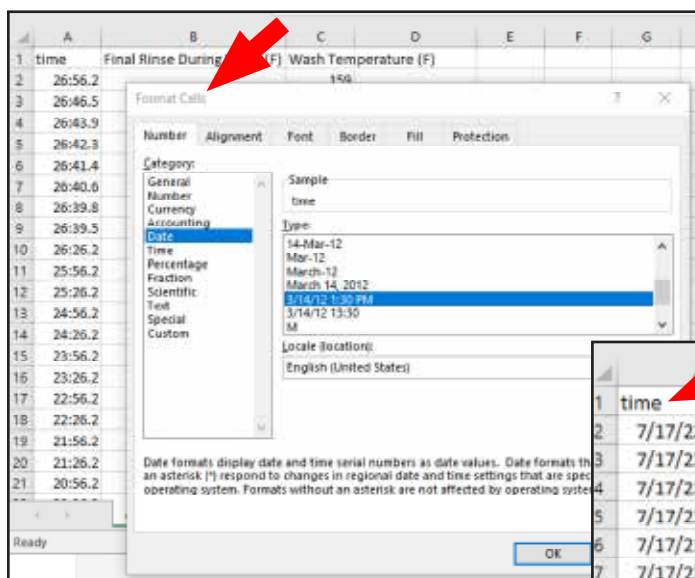

Fig. 13 - .Modify time column
- Select Format Cells then Date and then select the Type form shown in Fig.13.